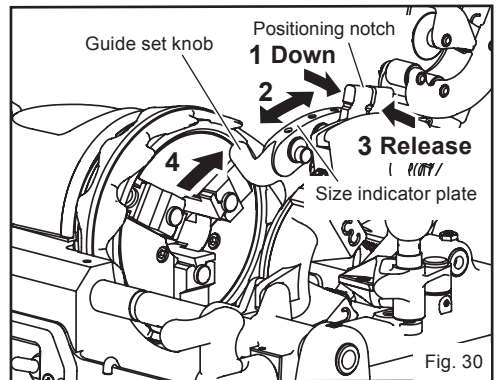

Fig. 30
To change size: (Fig.30)
1. Push the positioning notch in the direction of arrow 1 in Fig. 30.